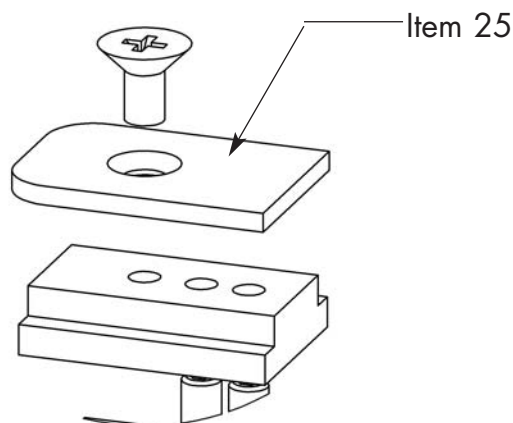

FIGURE 1
The most obvious distinguishing feature of the revised 2000 is its newly shaped outer band lock (item 25), which is fastened by one flat head screw. See Figures 1 & 3.